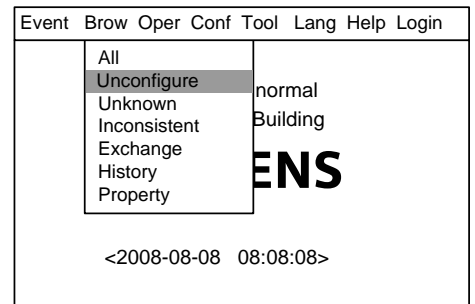
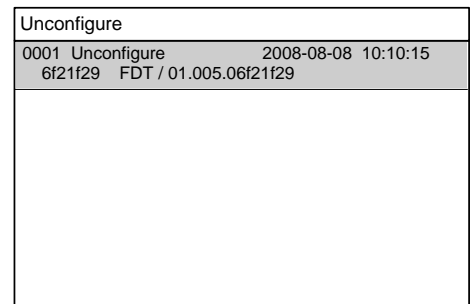

Fig.30-2
Fig.30-3
2. Press "→" to select "Browse" submenu (Fig. 30-2). Press "↓" to select "Unconfigure" and then press "OK". Now the equipments unconfigure will be displayed in the window (Fig.30-3).